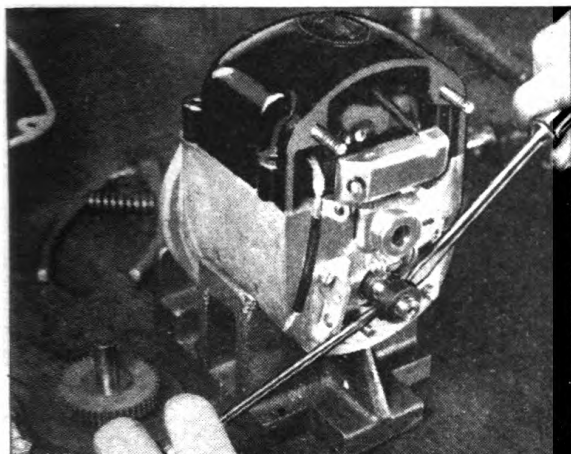

Fig. 57. Removing Cam From Rotor Shaft
4. If, in timing the magneto, it is found that the cam is worn so that in order to properly time the magneto the contact points would open too far, it is possible to reverse (turn over) the cam, thus creating the same condition as a new cam. Pry off the steel gear on the rotor shaft. Fig. 56. Pry off the cam. Fig. 57. Reverse the cam and reinstall the steel gear. At this point the opening should be the right amount when the spark occurs at the right time. The timing of the spark may be changed by adjusting the contact